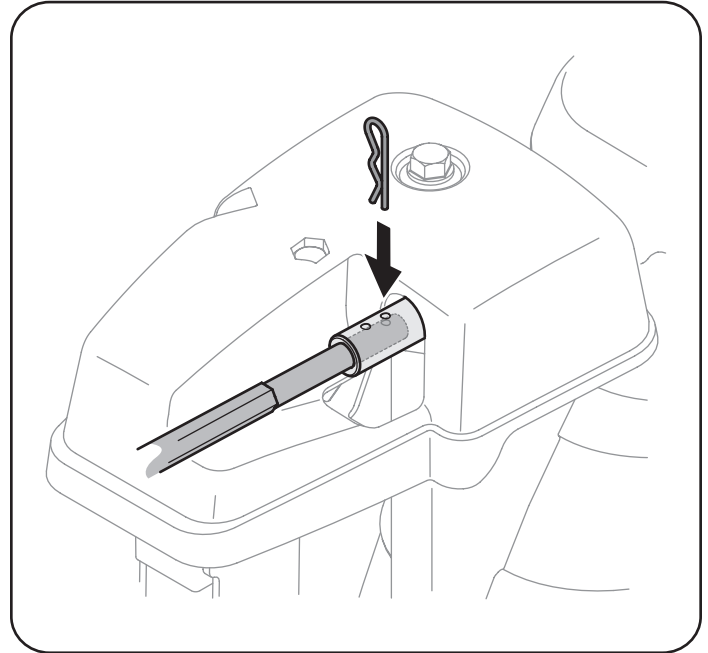

Figure 9
8. Now push the chute control rod back towards the handle panel until the hole in the rod lines up with the hole in the chute control input closest to the chute control head. Insert the cotter pin. See Figure 9.